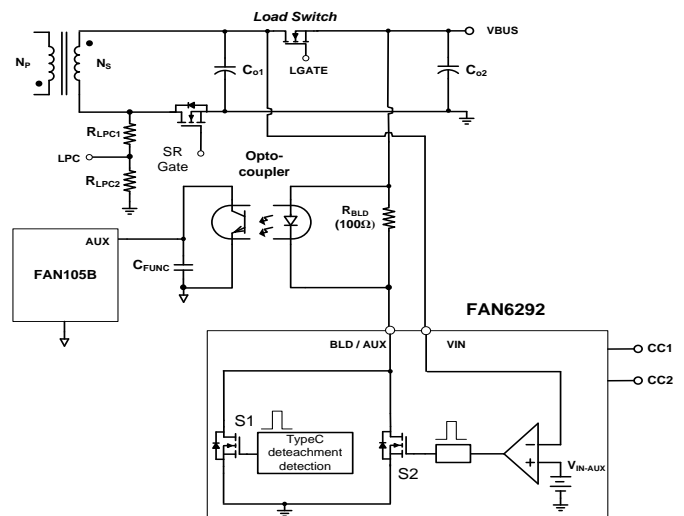

Figure 14 BLD/AUX Function Diagram
When the portable device is detached, BUS voltage should be discharged to zero within a short time to meet TypeC specification. FAN6292BMX/ FAN6292MX support bleeding function by turning on S1 for  $T_{BLD-max}$  as shown in Figure 14. The amount of bleeding current through BLD/AUX pin can be controlled by the external resistor  $R_{BLD}$  shown in (1).